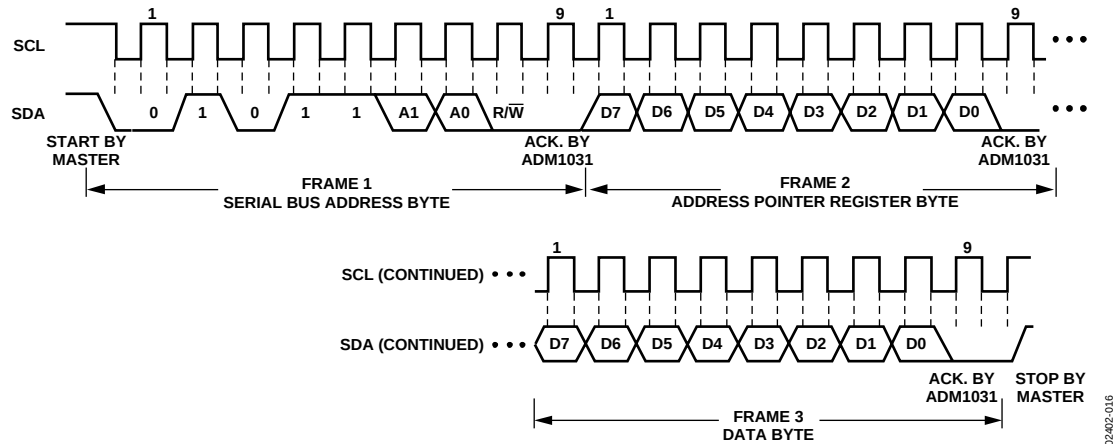
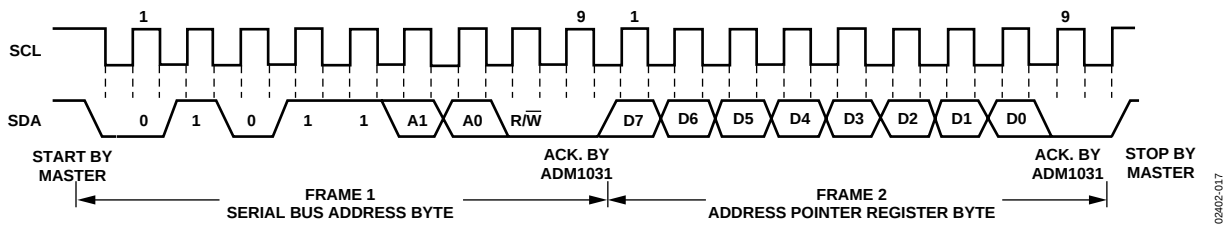
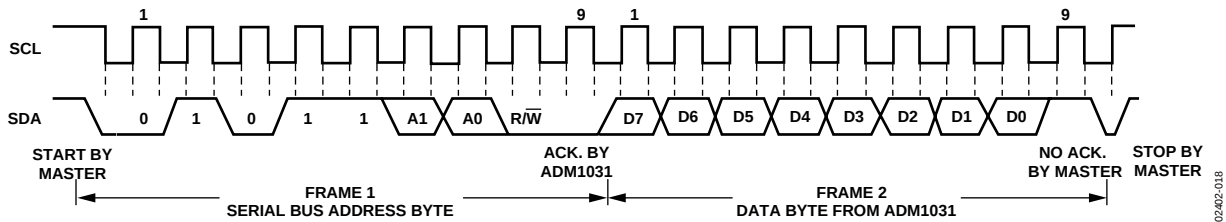

Figure 16. Writing a Register Address to the Address Pointer Register, then Writing Data to the Selected Register
Figure 17. Writing to the Address Pointer Register Only
Figure 18. Reading Data from a Previously Selected Register
This is illustrated in Figure 16. The device address is sent over the bus followed by $\overline{R/\overline{W}}$ set to 0. This is followed by two data bytes. The first data byte is the address of the internal data register to be written to, which is stored in the address pointer register. The second data byte is the data to be written to the internal data register.
1. If the ADM1031's address pointer register value is unknown or not the desired value, it is first necessary to set it to the correct value before data can be read from the desired data register. This is done by performing a write to the ADM1031 as before, but only the data byte containing the register address is sent, as data is not to be written to the register. This is shown in Figure 17.
A read operation is then performed consisting of the serial bus address, $\overline{R/\overline{W}}$ bit set to 1, followed by the data byte read from the data register. This is shown in Figure 18.
2. If the address pointer register is known to be already at the desired address, data can be read from the corresponding data register without first writing to the address pointer register, so Figure 17 can be omitted.
- In Figure 16, Figure 17, and Figure 18, the serial bus address is shown as the default value 01011(A1)(A0), where A1 and A0 are set by the three-state ADD pin.